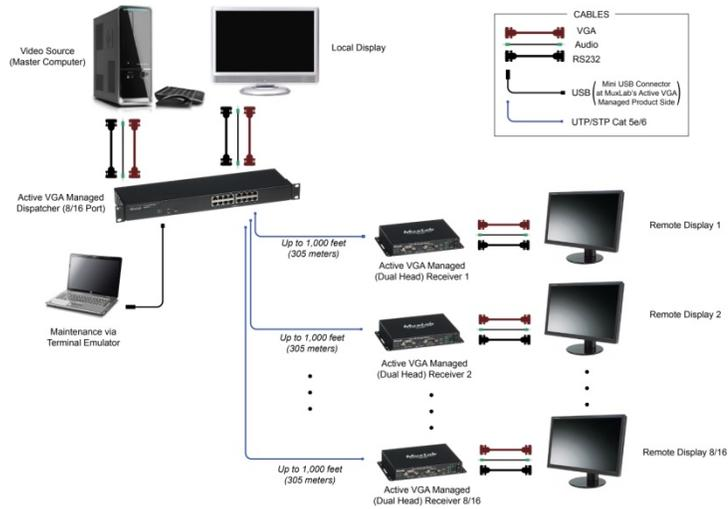

Figure 6: Simple Dispatcher/Receiver Configuration
- 8. Figures 6 and 7 show some typical configurations: